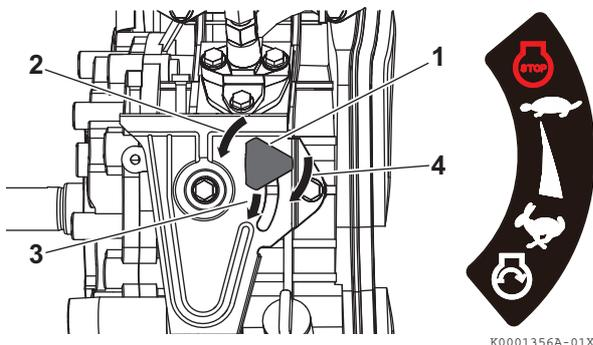

Figure 13
- If your engine speed control is similar to **Figure 13**:
- Turn the engine speed control knob (**Figure 13, (1)**) to the left (**Figure 13, (2)**).
- Slide the engine speed control knob to the START position (**Figure 13, (3)**).
- Turn the engine speed control knob to the right (**Figure 13, (4)**) to tighten it.